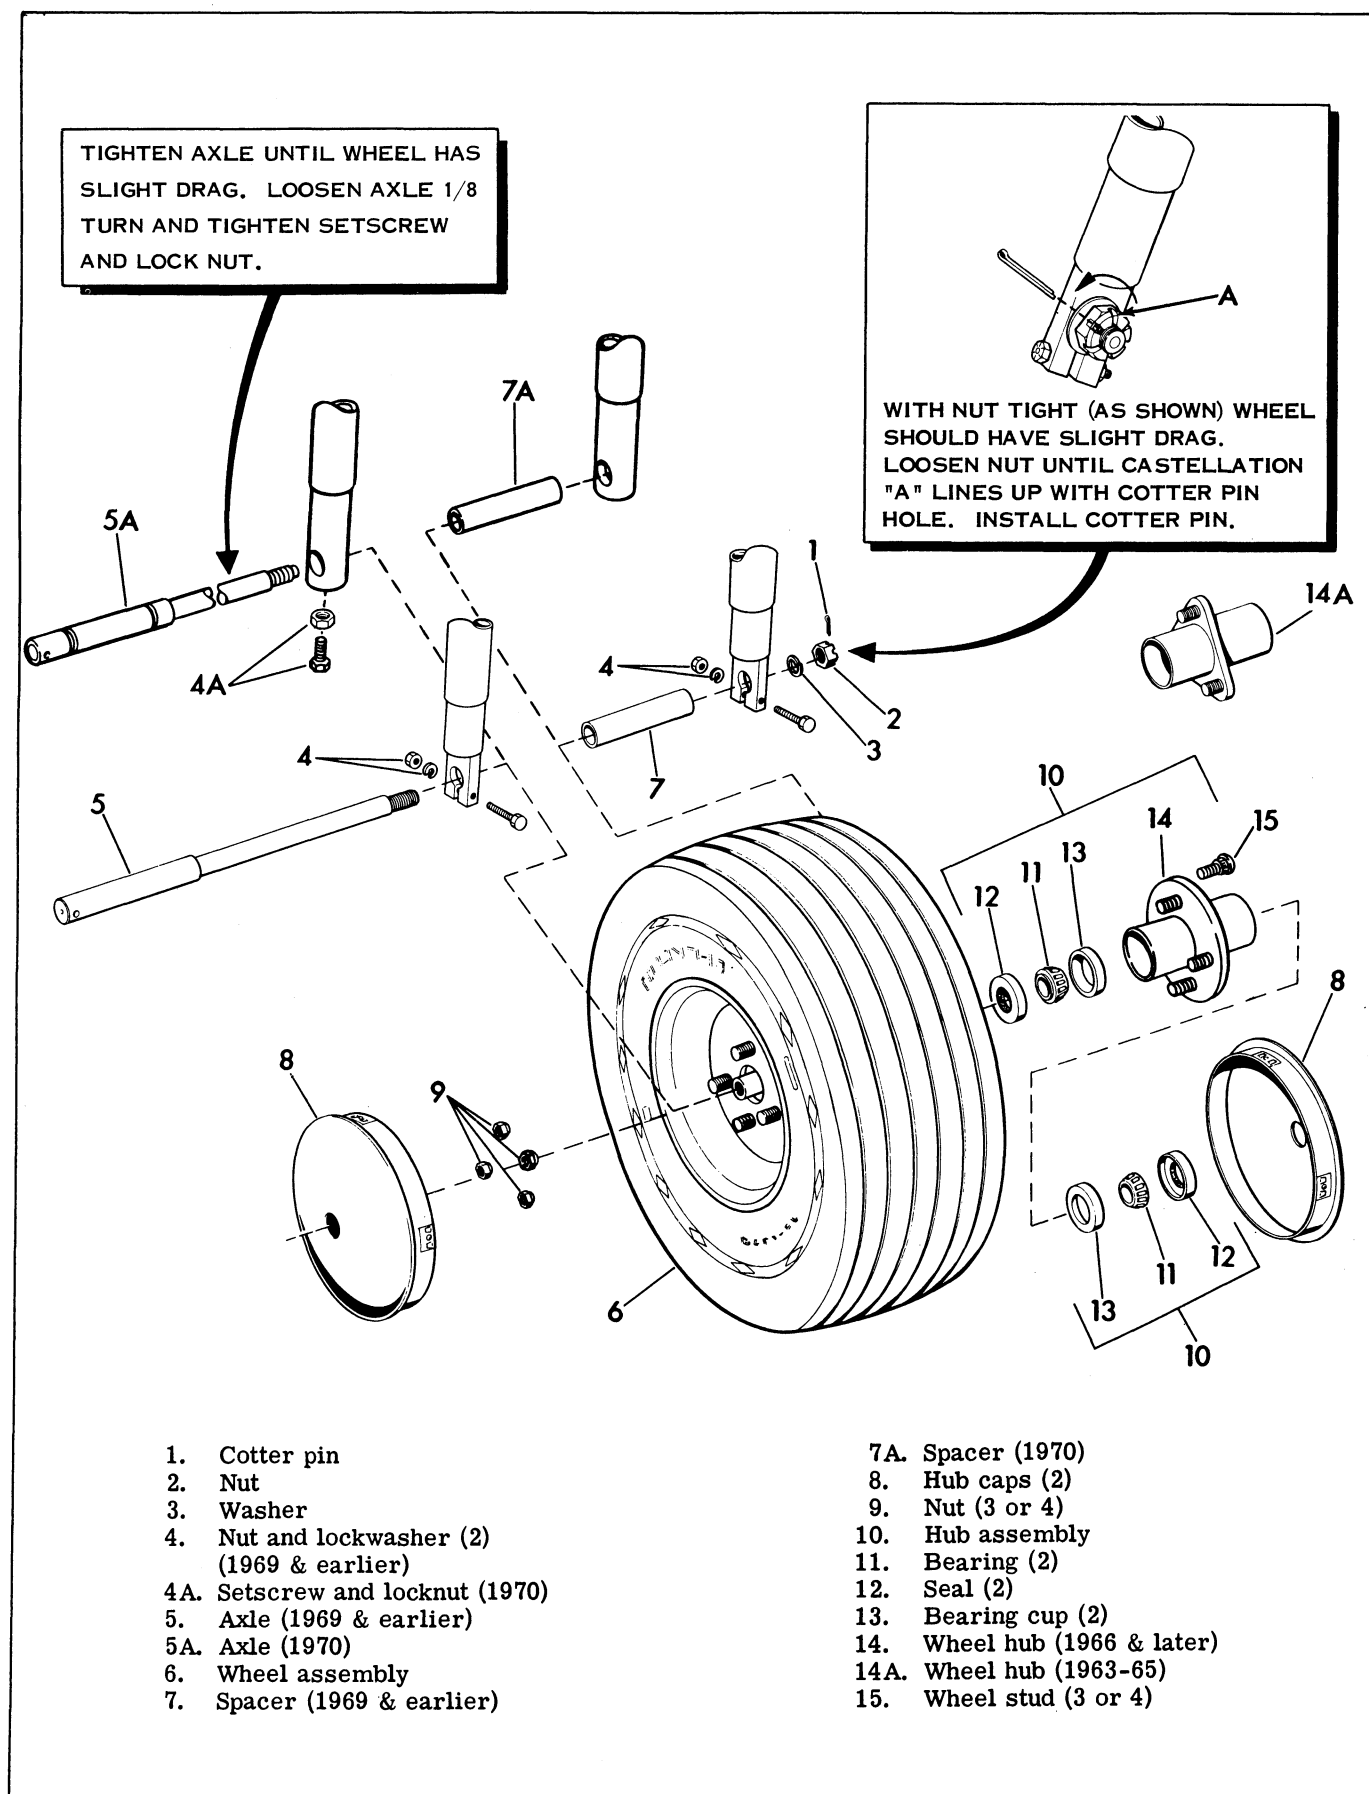

Figure 2-24. Front Wheel - 3 Wheel Car - Exploded View
#### 3 WHEEL MODELS (See Figure 2-24)
in the axle. Install cotter pin (1) and tighten both axle clamp bolt nuts (4). See Figure 2-24.
Raise front wheels off the ground with a small jack or lift. Remove hub caps, wheel rim mounting nuts, and wheel, same as for 3 wheel car (See Figure 2-24.)